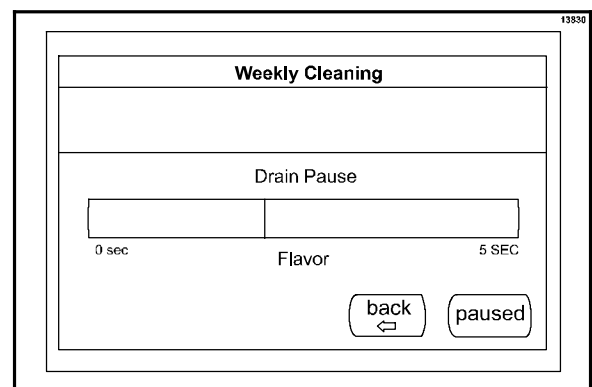

Figure 92
**Note:** If the drain is not draining fast enough or if the operator needs to leave the machine for awhile, the PAUSE key can be used to stop and restart the process. If the PAUSE key is pressed, a bar graph screen will illustrate the drain pause progress for each product line. (See Figure 92.)